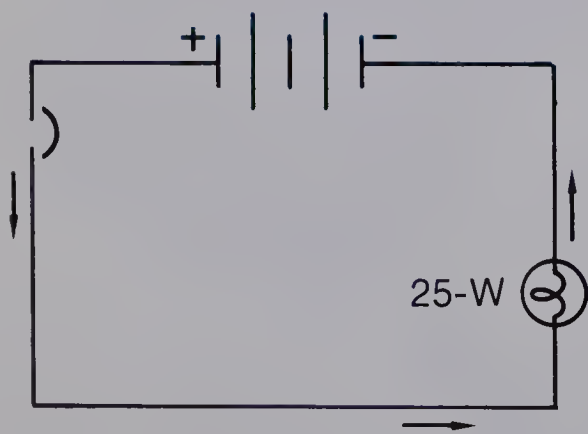
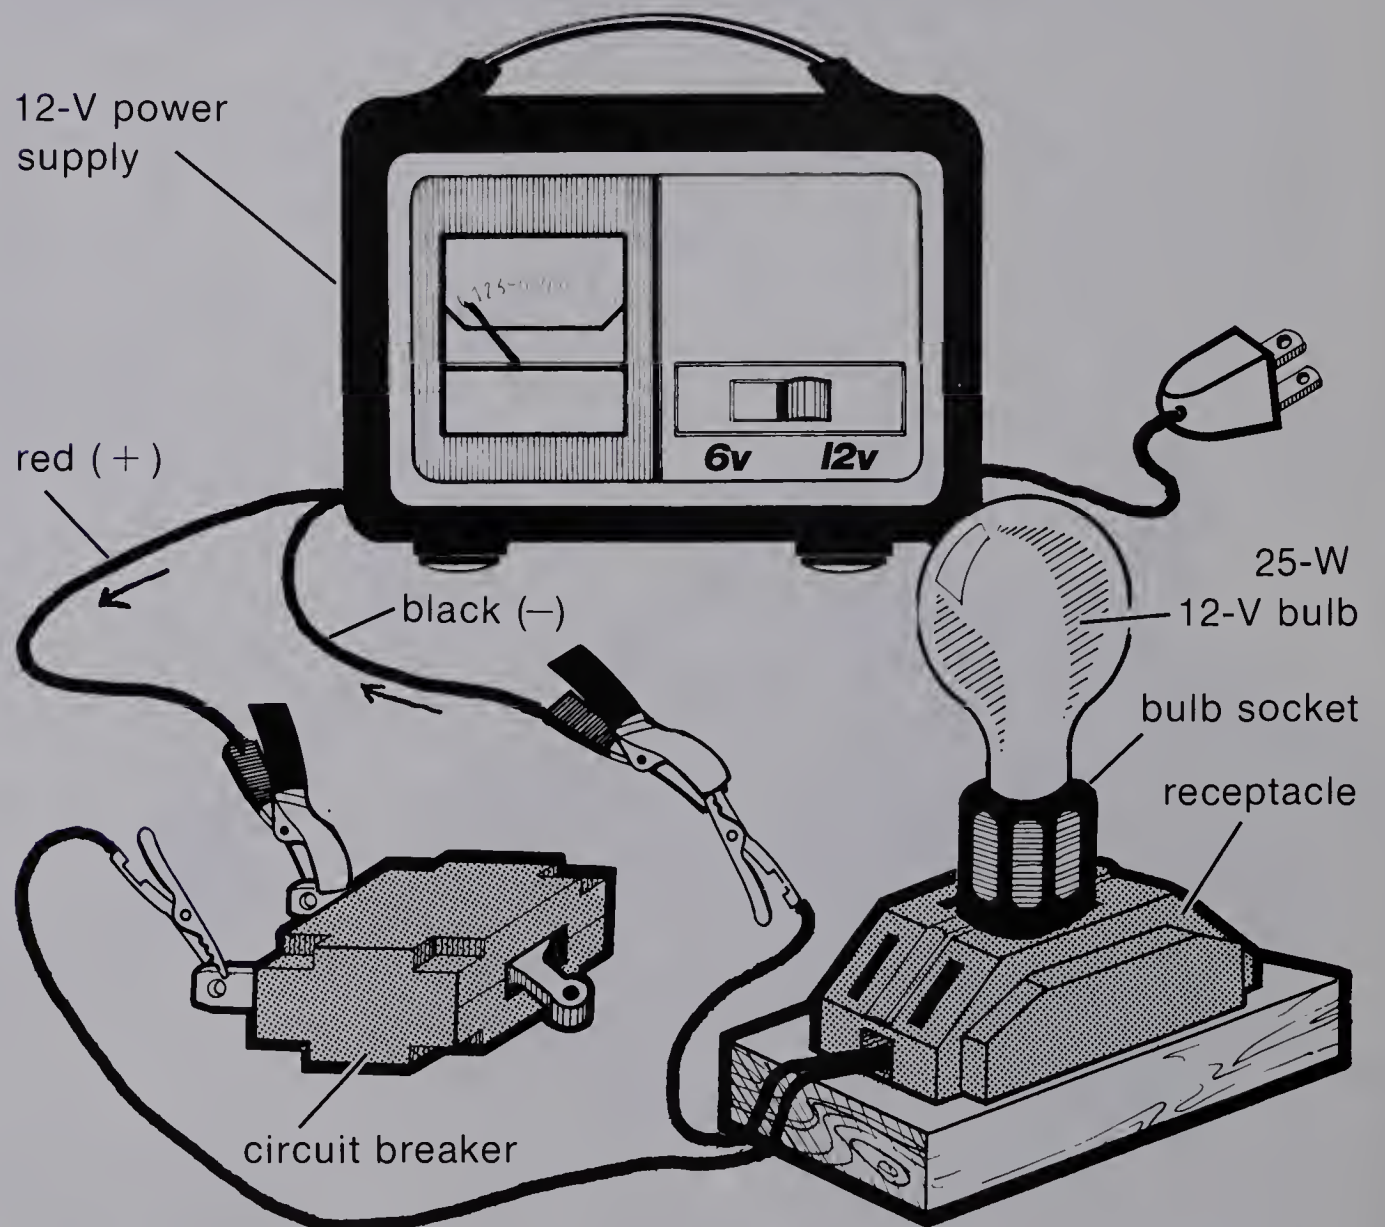

Figure 9-2
Figure 9-1
Figure 9-1 shows a circuit that will supply electric current to a bulb. You can easily trace the current path, or circuit. From the red (+) terminal of the power supply, electricity flows through the circuit breaker, through the bulb, and then back to the power supply. Figure 9-2 is a way to show that circuit. It is called a circuit diagram.
- 9-1. Compare Figure 9-1 with the circuit diagram in Figure 9-2. Then draw the circuit diagram symbol for a power supply, a bulb, and a circuit breaker.
Use Figure 9-2 to trace the conducting path from the red, or +, terminal of the power supply to the point where you wish to insert the ammeter. Do this before actually connecting the ammeter.